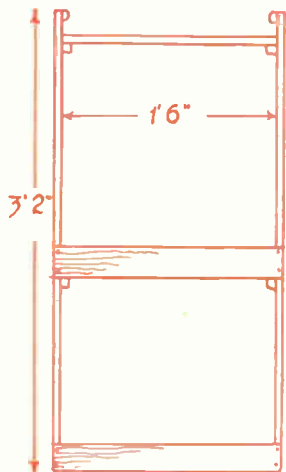
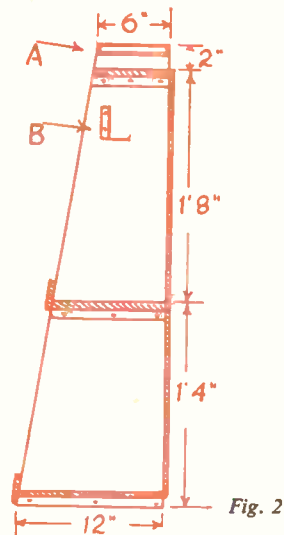

Fig. 1
Fig. 2
A front view of the rack is given at Fig. 1, and a vertical side section at Fig. 2. For the sides a piece of  $\frac{3}{4}$ in. plywood will serve, 18ins. wide and 3ft. 2ins. long. Both sides can be cut from this without waste. The shelves can also be cut from this material, or  $\frac{3}{4}$ in. planed deal, as preferred.
At positions where the shelves are to be fixed, screw  $\frac{3}{4}$ in. by 1in. strips of wood. Cut the three shelves to length given, or longer if a wider rack would be desired, and screw to the strips. An easier job will result here, if the screw holes, which, by the way, should be countersunk, are bored in the shelves beforehand. Across the front of the rack nail 2ins. wide strips of thin wood to the middle and bottom shelves. Strips of  $\frac{3}{4}$ in. thick matchboarding would suit. To the top of the rack sides,  $\frac{3}{4}$ in. square strips of wood are nailed on the inside as at (A) in Fig. 2, to provide a grip when the rack has to be lifted up and shifted. The corner edges of these should be rounded off a little for ease in handling.
This can be a length of sheet metal, about 4ins. wide, bent L-shaped, and screwed to the inside of the rack, just below the edges of chisels, etc. It is shown at (B) Fig. 2, the best position being found by experiment.